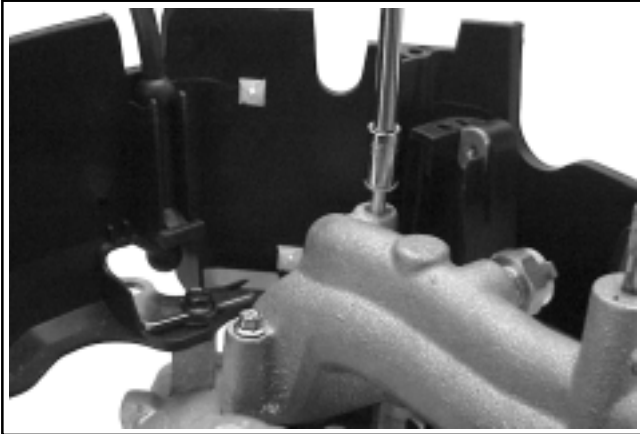

Figure 9-52. Removing Remaining Intake Manifold Screws.
1. Remove the four remaining hex. flange screws securing the intake manifold to the cylinder heads. See Figure 9-52.